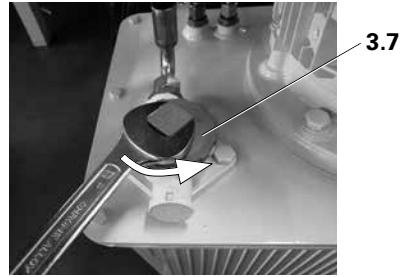

Fig. 23: Screwing on the cap
1. Unscrew the plastic cap of the return flow filter (3.7) and open (Fig. 23). Plastic cap presses the filter element (3.12) into the lower part of the housing (3.13) by means of a spring.